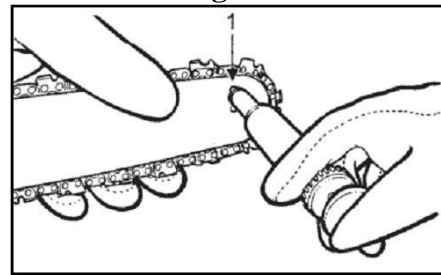

Fig. 27
- 2- Properly clean the hole for lubrication (see 1 in Fig 27) on the tip of the guide bar (from both sides).